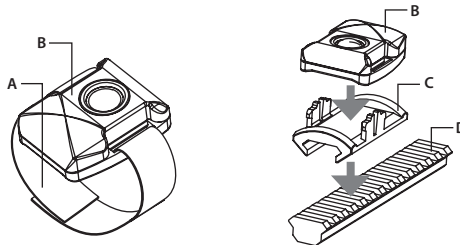

FIGURE 3-3. ADVANCED WIRELESS REMOTE CONTROL
Using the supplied Velcro tape (A, Figure 3-3), fasten the remote control (B) to an easily accessible place.